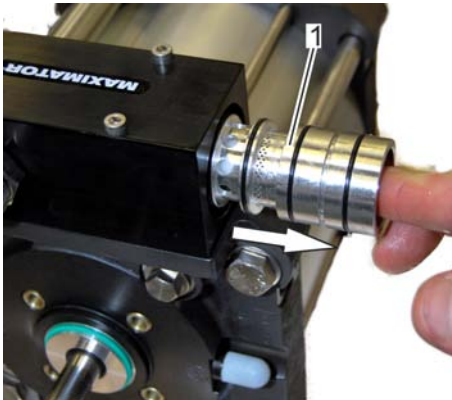

Fig. 43: Removing the sleeve
5. ➤ Remove sleeve (Fig. 43/1) out on other side of control valve housing.